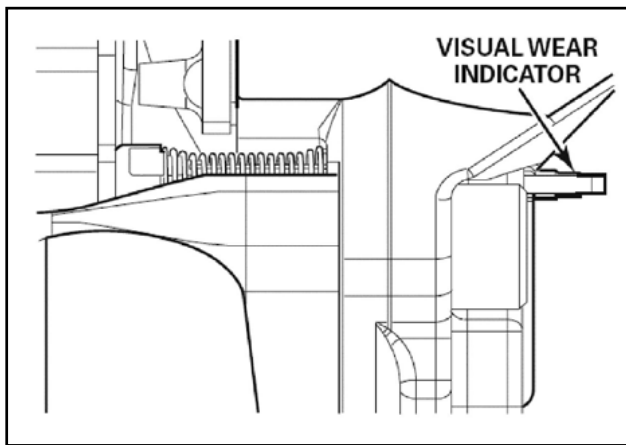

Figure 16
- a. The visual wear indicator shows approximately how much of the lining material is remaining. (See **Figure 16**.)